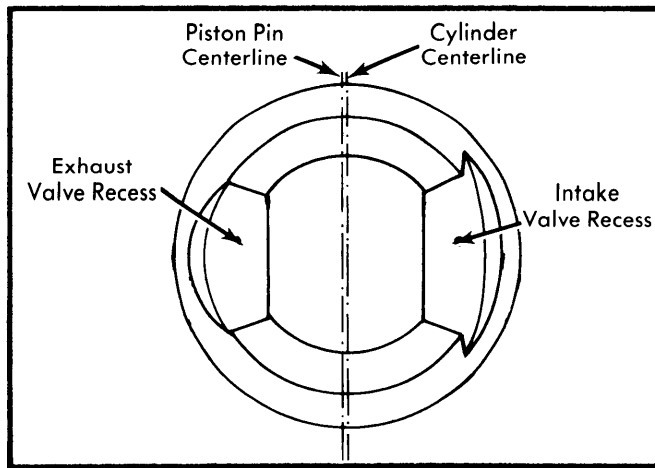

Fig. 9 Piston Crown Viewed From Top
4) When installing pistons on connecting rods, be sure the intake valve recess (See Fig. 9) in the piston crown is on the side of the connecting rod with the lubrication hole. Use suitable tool (88012211) to install circlips securing piston pins.